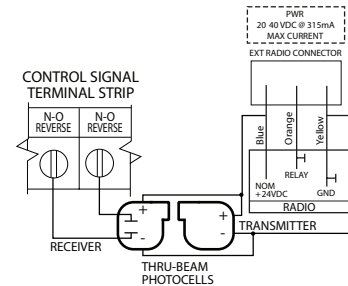

Figure 8
- 1) Nominal 24 Volt DC Commercial photocells with normally open contacts can be connected as shown in **Fig. 8.**